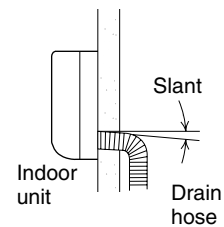

Fig. 3-114
- a) The drain hose should be slanted downward to the outdoors. (Fig. 3-114)